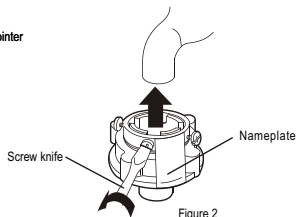
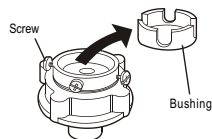

Figure 2
Figure 3
- 3 Loosen the screw till the water faucet can be accessed. Put the jointer of the water inlet hose on the faucet. See to Figure 2. (If the faucet is too large and the jointer can not be set on the water faucet, please loosen the four screws and take out the bushing in the jointer. The front end of the faucet must be smooth, otherwise it may leak water. See to Figure 3.)